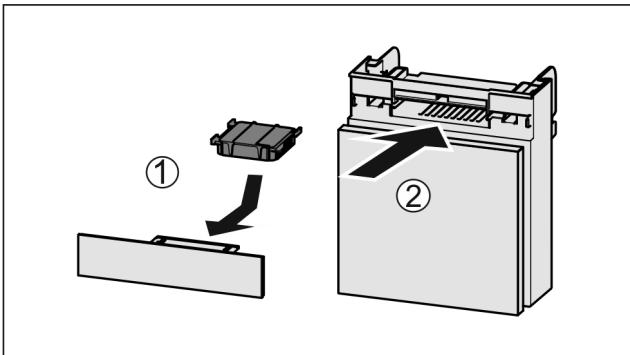

Fig. 141
- Insert the carbon filter as shown in the diagram Fig. 141 (1).
- Push the compartment in Fig. 141 (2).